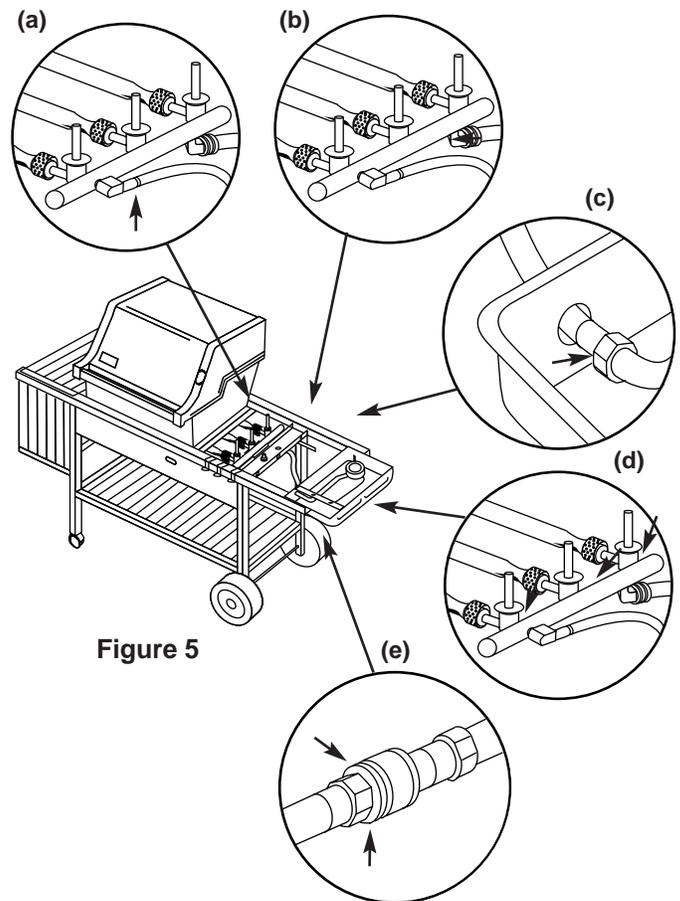

Figure 5
- Hose to manifold connection. Figure 5 (a).
- Manifold to side burner hose connection. Figure 5 (b).
- Side burner hose to side burner connection. Figure 5 (c).
- Valves to manifold connections. Figure 5 (d).
- Hose to quick disconnect connection. Figure 5 (e).